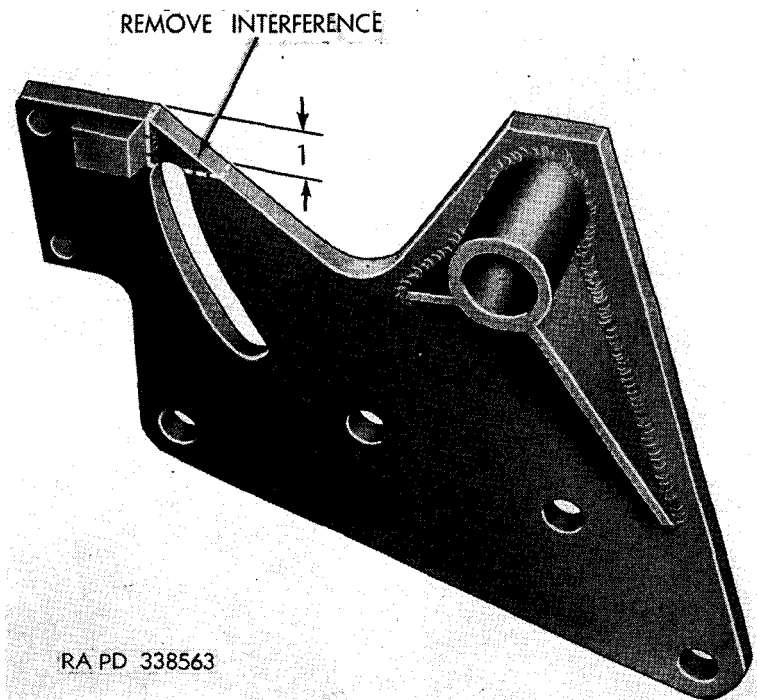

Figure 24. Alteration of hydraulic pump mounting plate.
m. ALTER PUMP MOUNTING PLATE. Alter the pump mounting plate (fig. 24) so that the pump can be adjusted to permit installation of pump drive belts.